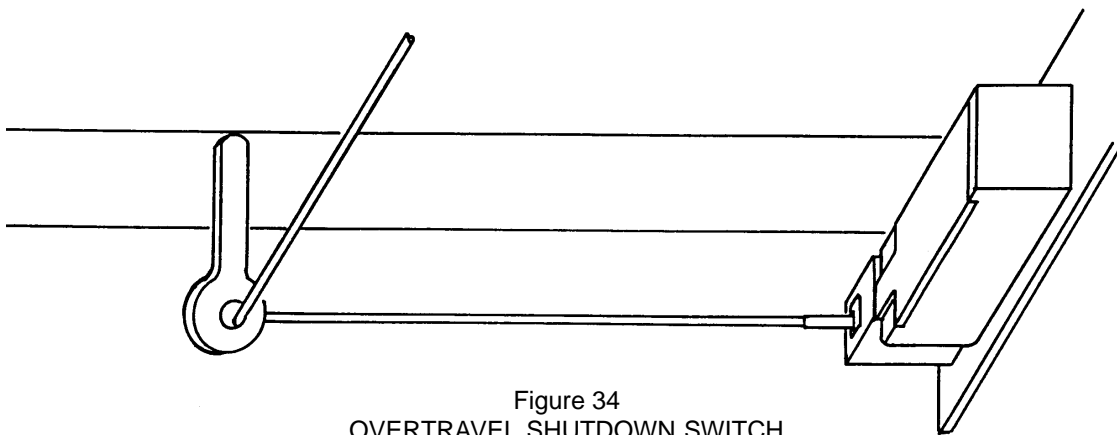

Figure 34
- L. 1PLS Overtravel Shutdown. Limit Switch, Bridge On Track (Figure 34)
(1) Adjust actuating cable to remove all excess slack without pulling actuating pin from limit switch.